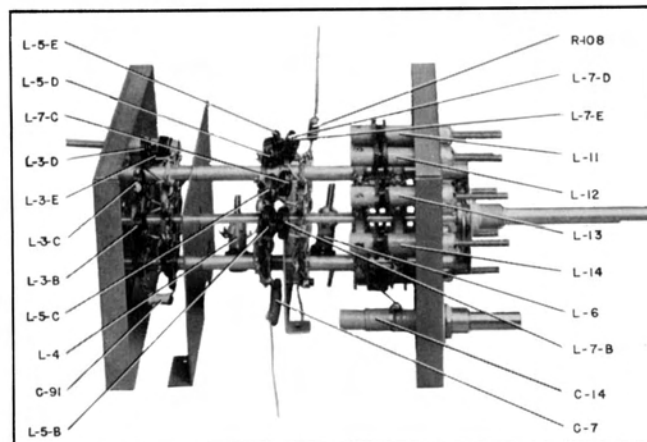

Figure No. 8. Detail of R.F. Unit Switch Assembly
3. Connect the signal generator through a 0.01 mfd capacitor to channel 5 contact of S-4A and chassis. (Junction of L-7D and L-7E, see Figure No. 8.)